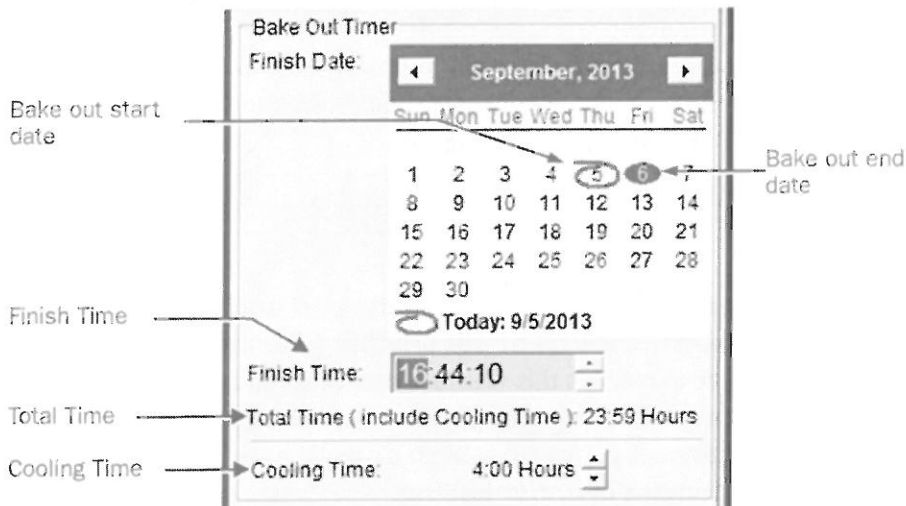

Fig. 6.13 Setting the bake out time and cooling time (Bake Out/ACD window)
3. Set the desired baking time and cooling time in Bake Out Timer field in Bake Out/ACD window (Fig. 6.13).
- a. Set the bake out stop date in Finish Date: Select the stop date on the calendar (Fig. 6.13).
- b. Set the baking time using the ▲ and ▼ buttons in the Bake Out Time box (Fig. 6.13).
- c. Set the cooling time using the [▲] [▼] in Cooling Time (Fig. 6.13).